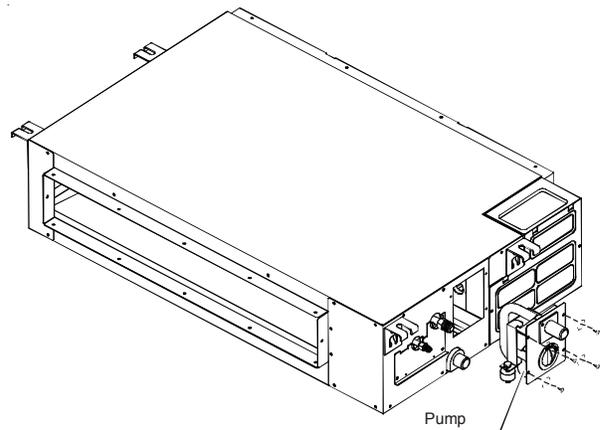

Figure 33
1. Remove the four screws from the drain pump. See Figure 33.